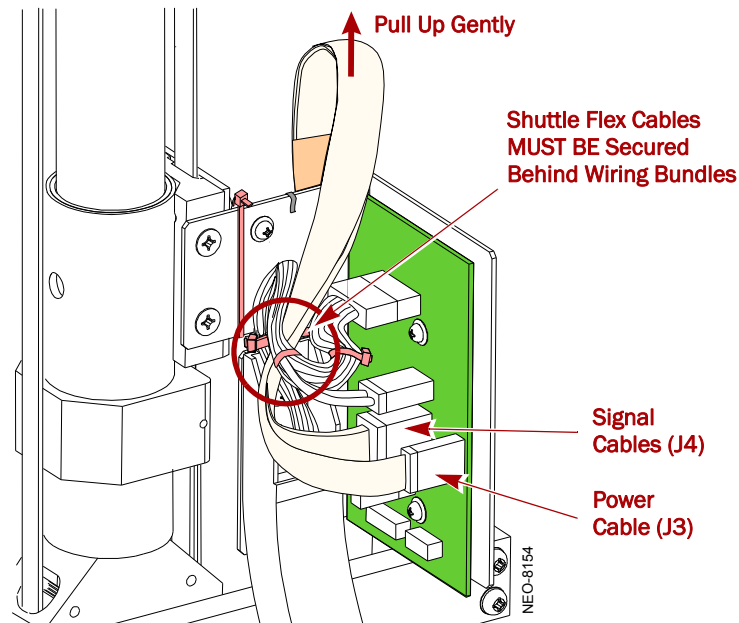

Figure 3-13: Reattach Cables to Rotary SPI PWA
8. With the Flex cables cleanly looped over the bracket, attach the cables to the **Rotary SPI** (Figure 3-13):